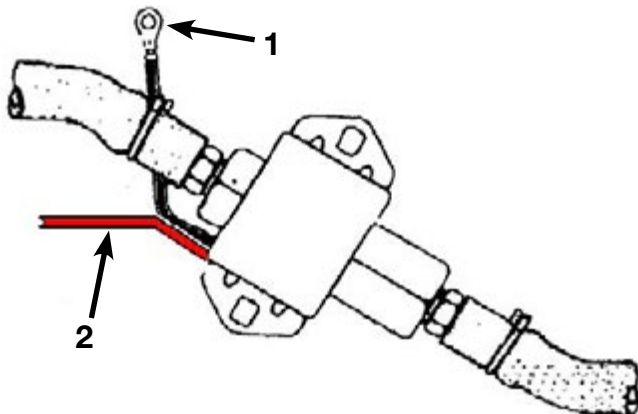

Figure 13a
2) The red wire is connected to a power source that is hot when the starter is engaged, and when the key is in the run position. Figure 13a.